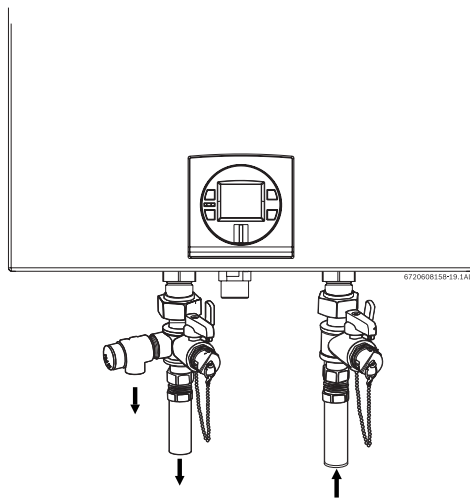

Fig. 16 Plumbing Connections (with shutoff valves) and Pressure Relief Valve
- ▶ Full port shutoff valves should be installed on both the cold water supply and hot water outlet lines to facilitate servicing the heater (see Fig. 16).
The location of the PRV must be readily accessible for servicing or replacement, and be mounted as close to the water heater as possible. See Fig. 16. To install the PRV, a suitable fitting connected to an extension on a "T" fitting can be sweated to the hot water line. Support all piping.